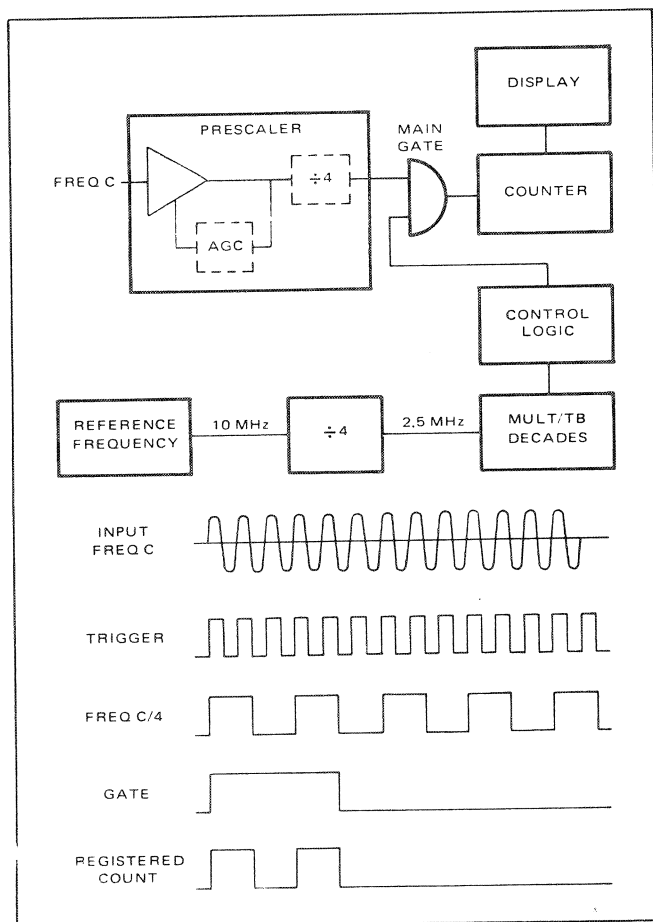

Figure 4.6 - Frequency C Mode
4.23 In the Frequency C mode, the unknown frequency is applied to the main gate through the prescaler. The prescaler includes an amplifier, automatic gain control circuit, and a divide-by-four circuit (figure 4.6).